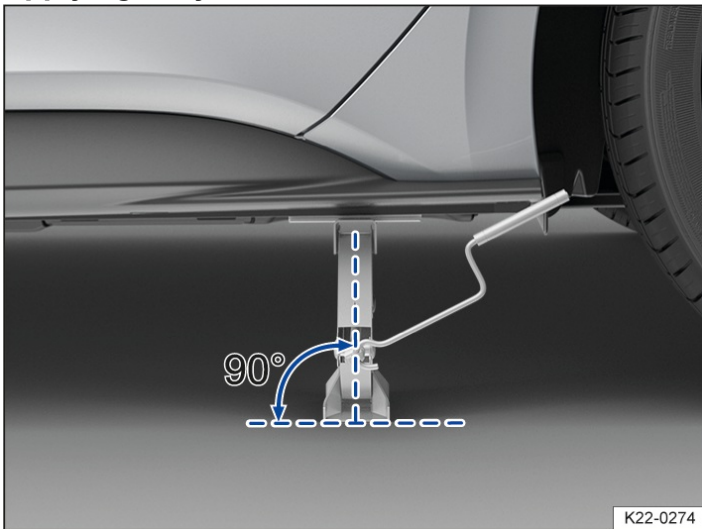
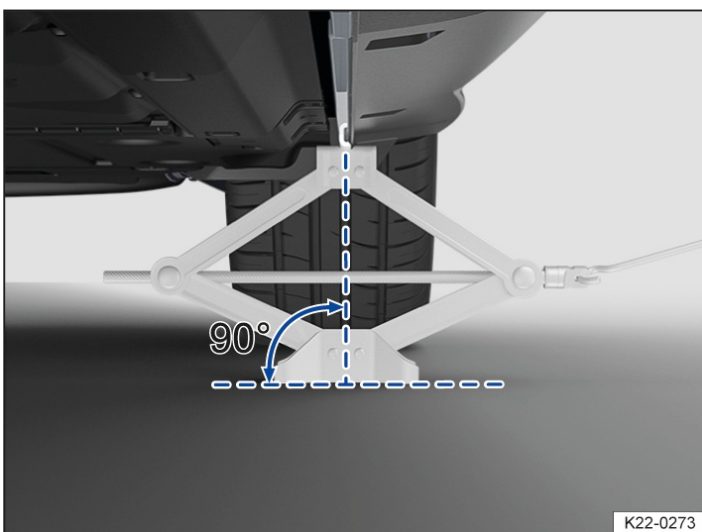

Fig. 2 Correct alignment of the jack.
Fig. 3 Scissors jack applied at the rear on the left-side of the vehicle.
4. Make sure that the entire surface of the foot of the jack is resting securely on the ground and that the foot of the jack is positioned vertically directly beneath the jacking point → Fig. 2 and → Fig. 3.
5. Position the jack and simultaneously continue to crank the claw up until it is in position around the jacking point underneath the vehicle → Fig. 3.
- Fit the jack only at the described jacking points. The jack claw must grip the vertical rib under the side member securely → Fig. 3.